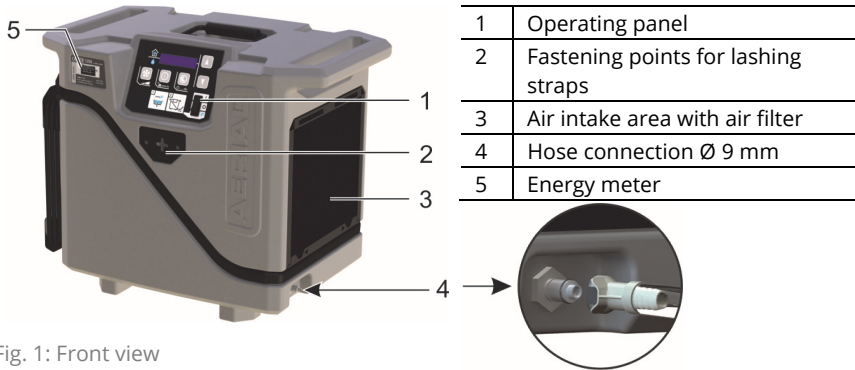
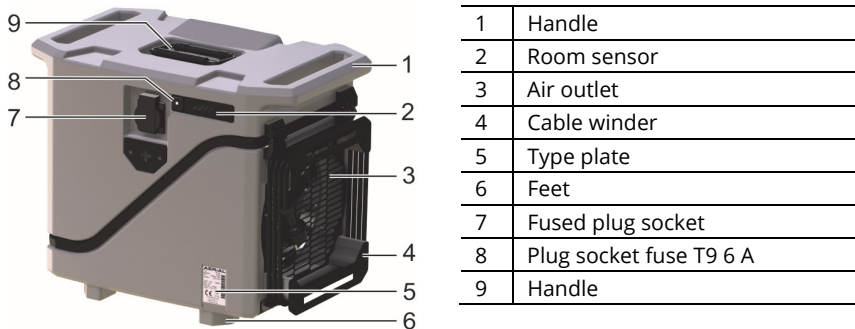

Fig. 1: Front view
Fig. 2: Rear view
See Fig. 1 and Fig. 2 on page 1.
Via the 6 amp plug socket (Fig. 2, item 7) further devices can be connected.